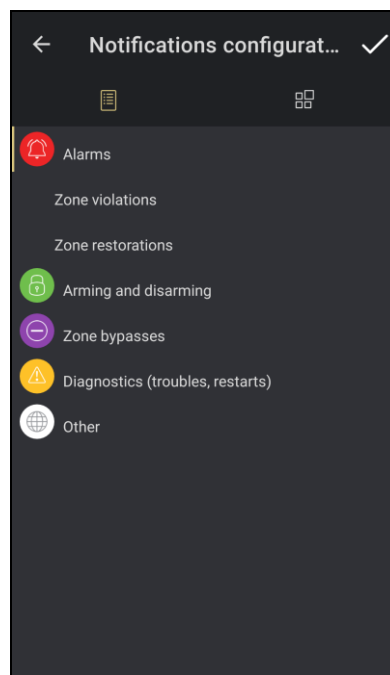

Fig. 29. INTEGRA CONTROL application. “Notifications” screen. Configuration of push notifications settings.
2. Tap the event types that you want to be notified about (they will be highlighted in yellow on the left) (Fig. 29).